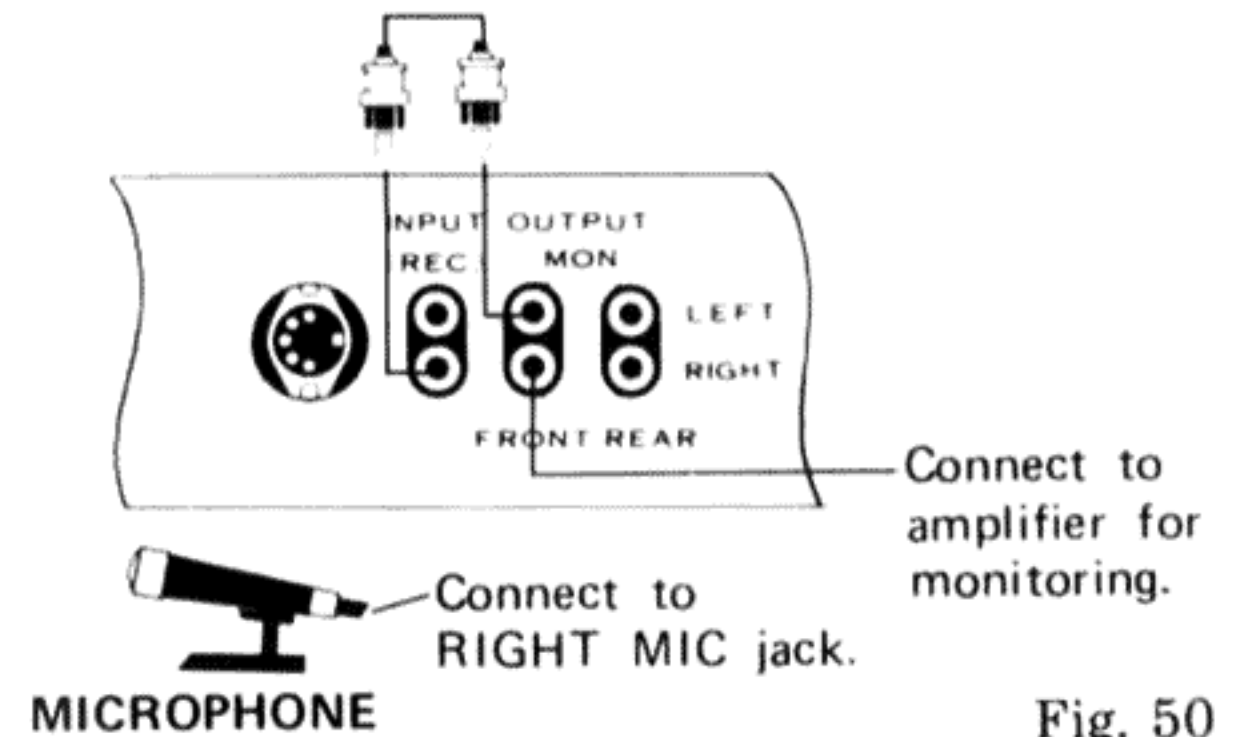

Fig. 50
1. Connect FRONT LEFT OUTPUT (MON) terminal to RIGHT INPUT REC terminal (Fig. 50). Connect microphone to RIGHT MIC input jack.